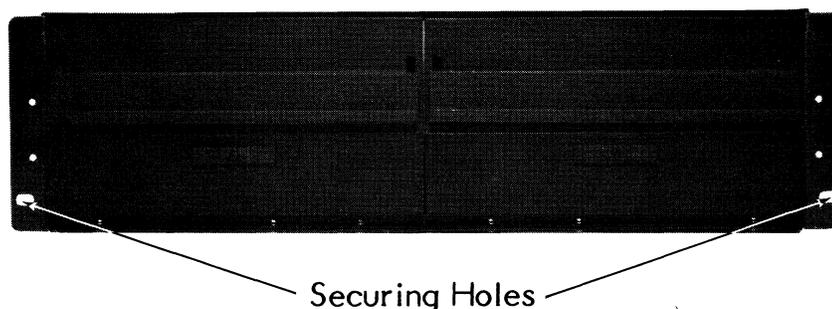

Figure 2-4. Front View of Chassis with Front Panel
- 4) Secure the chassis in the rack by bolting the front flange to the front rails of the rack as shown in Figure 2-4.